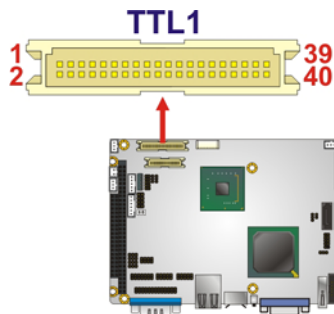

Figure 3-25: TTL LCD Connector Location
- CN Location:** See **Figure 3-25**